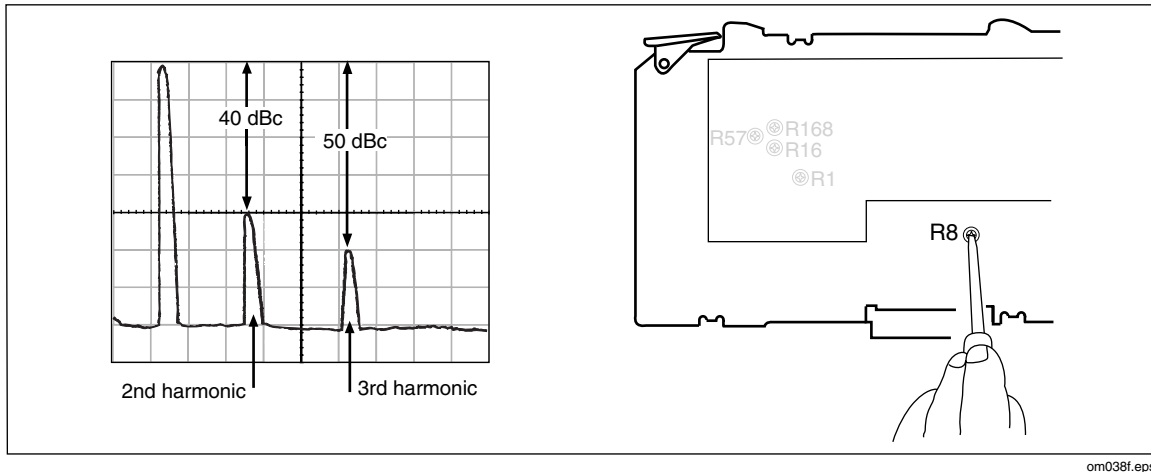

Figure 6-32. Adjusting the Leveled Sine Wave Harmonics
2. Use your Spectrum Analyzer's Peak Search function to find the desired reference signal. The Analyzer should show the fundamental, and second and third harmonics. The harmonics need to be adjusted so that the second harmonic is at 40 dBc and third harmonic should typically be at 50 dBc as shown in Figure 6-32.
3. To adjust the harmonics, adjust R8, as shown in Figure 6-32 until the peaks of the second and third harmonic are at the correct dB level. You may find that you can place the second harmonic at 40 dBc but the third harmonic is not at 50 dBc. If this is the case, continue adjusting R8. The second harmonic will fluctuate, but there is a point at which both harmonics will be at the correct decibel level.